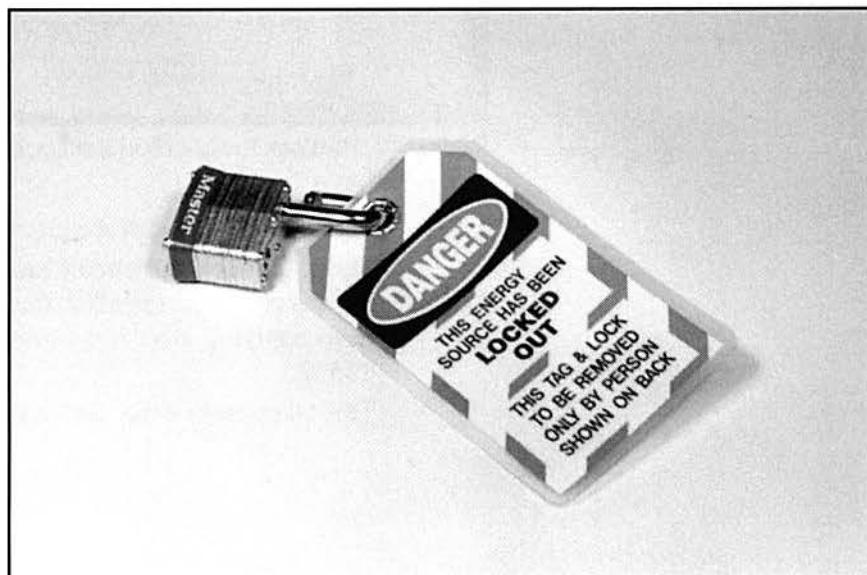

Figure 40. Tagout Tag Placed on Padlock Hasp
E. Open the padlock and slide the tagout tag onto the hasp, as figure 40 shows.